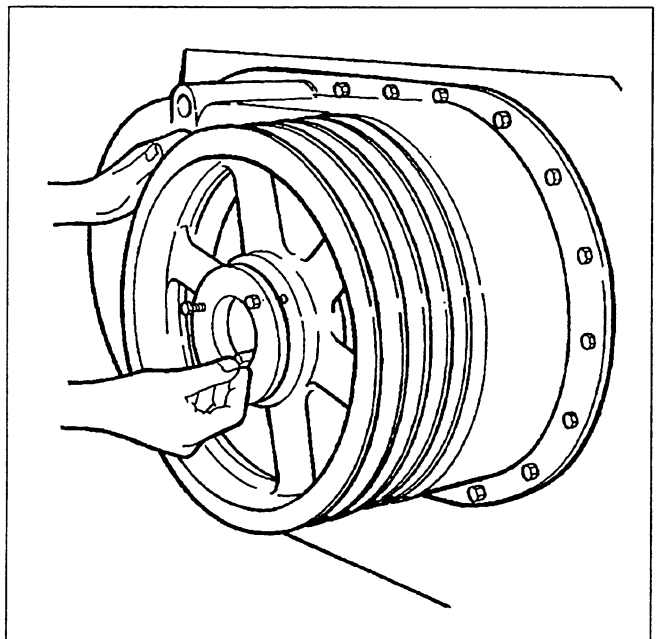

Figure 4-22. Installing Sheave Hub Key
24. Install reducer bushing (40), breather (39), and magnetic pipe plug (44).
25. Slide drive sheave (55) onto shaft (48). Install the sheave hub on the shaft, with the keyway in the hub aligned with the shaft keyway. Position the sheave so that the tapped holes in the sheave hub align with the tapped holes in the sheave hub, and install the three hub mounting capscrews finger tight. Install key (56). See Figure 4-22.
27. Install retaining washer (57) and secure with capscrews (59) and washers (58). Tighten to the torque value listed in Appendix A (use Dry-Grade 5 Values).
28. Install the counterweights (15) using capscrews (16) and washers (17).